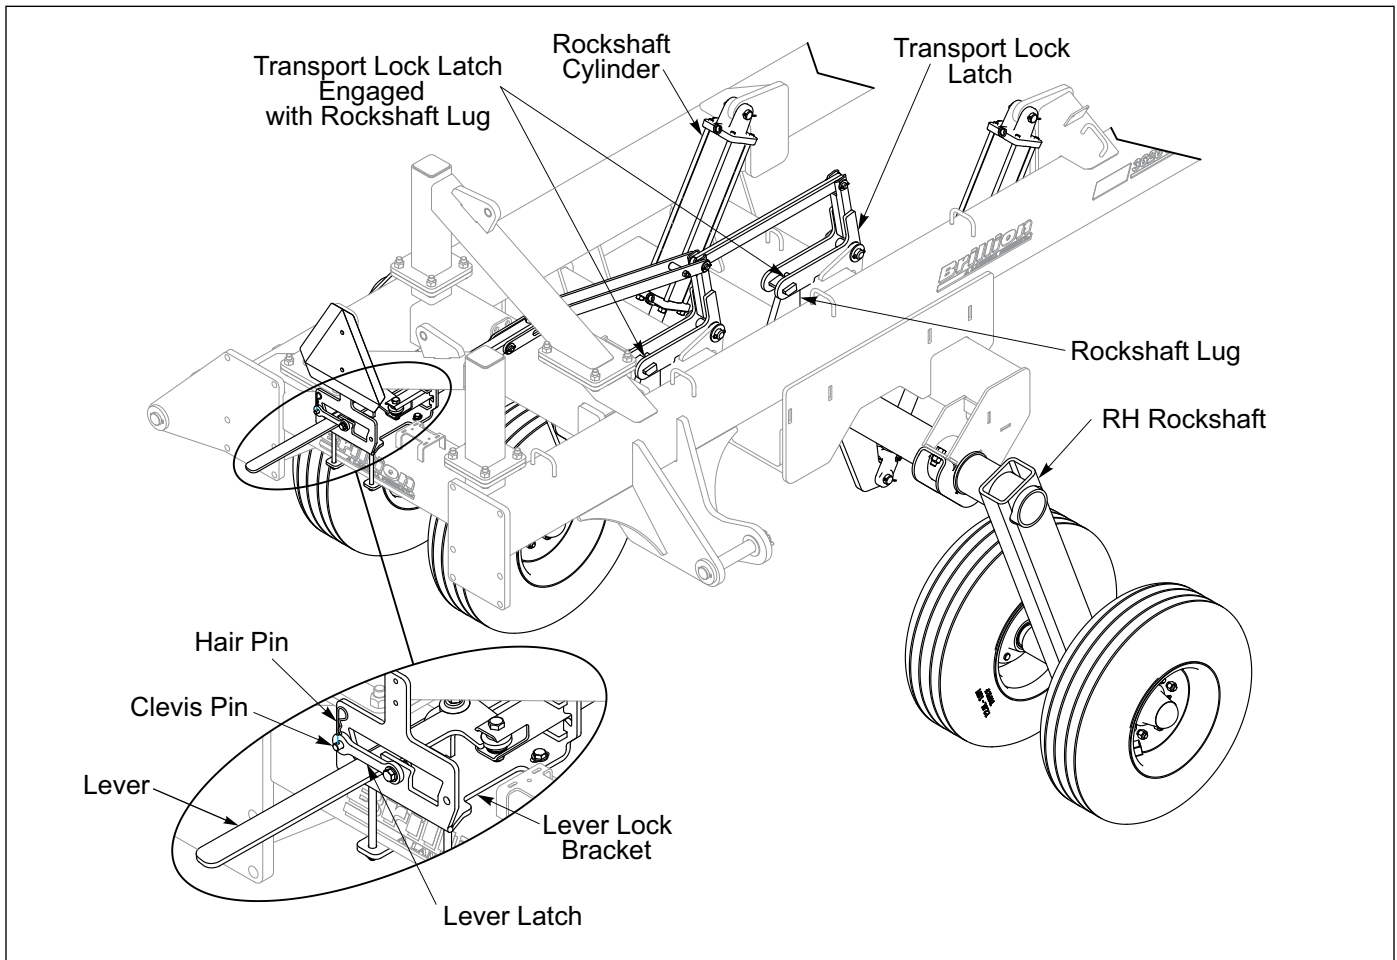

Figure 3-18: Transport Lock - Transport
10. Install transport locks on lift systems. Do not depend solely on implement hydraulics for transport. See Figure 3-18.